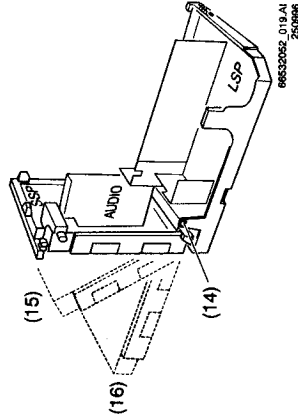

Figure 4.7
SSP copper and component side, module servicing (Figure 4.7)
2. Release the click construction (14 - Fig. 4.7) between the SSP and LSP. Lift the SSP a little and turn it to an angle of 180° (16 - see Fig. 4.7) from the LSP. The mains panel can now be accessed when reaching over the SSP/LSP.